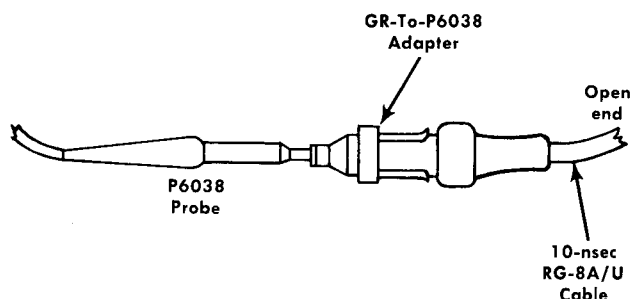

Fig. 5-1. P6038 Probe tip in 50-ohm system.
- Connect the Channel A P6038 Probe into the 50 Ω system of Fig. 5-1.
- Place the Channel A P6038 Probe into the 50 Ω environment of Fig. 5-1.